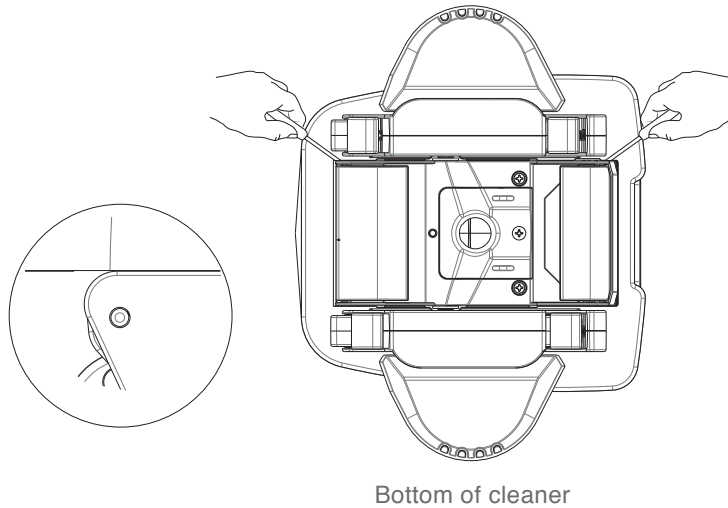

Fig. 14
- A. Remove the front and rear flaps from your StarzTruck automatic pool cleaner by inserting a small screwdriver between the flap and the lower body near the pivot point of the flaps (see Fig. 14).